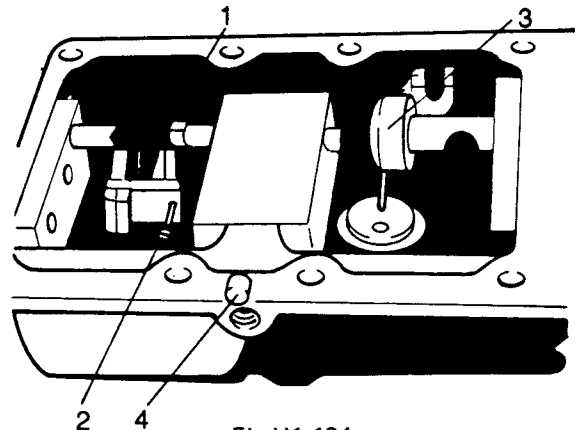

Fig H1.124
- (3) Refer to Fig H1.124. Replace the forks for the reverse selector shaft and replace the shaft (3) by sliding it forwards.
- (4) Tighten the screw which adjusts the hinge stop for reverse gear (2) to tighten the spring.
- (5) Replace the locking roller (4) and replace the spring pin (1) retaining the selector shaft fork.